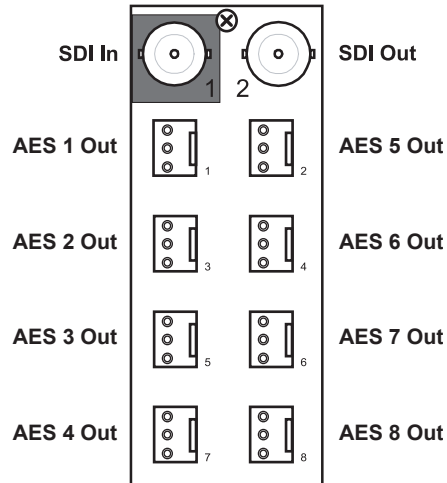

Figure 3.4 Cable Connections for the DMX-8259-B
- **DFR-8310 series frames** — The **8310AR-034** Rear Module is required. The DMX-8259-B is not compatible with the DFR-8310-BNC frames. Each rear module occupies one slot and accommodates one card. This rear module provides one SDI input, one SDI output, and eight balanced AES outputs at 110ohm. (**Figure 3.4**)
- **DFR-8320, OG3-FR, and OGX-FR series frames** — The **8320AR-034** Rear Module is required. Each rear module occupies two slots and accommodates one card. This rear module provides one SDI input, one SDI output, and eight balanced AES outputs at 110ohm. (**Figure 3.4**)